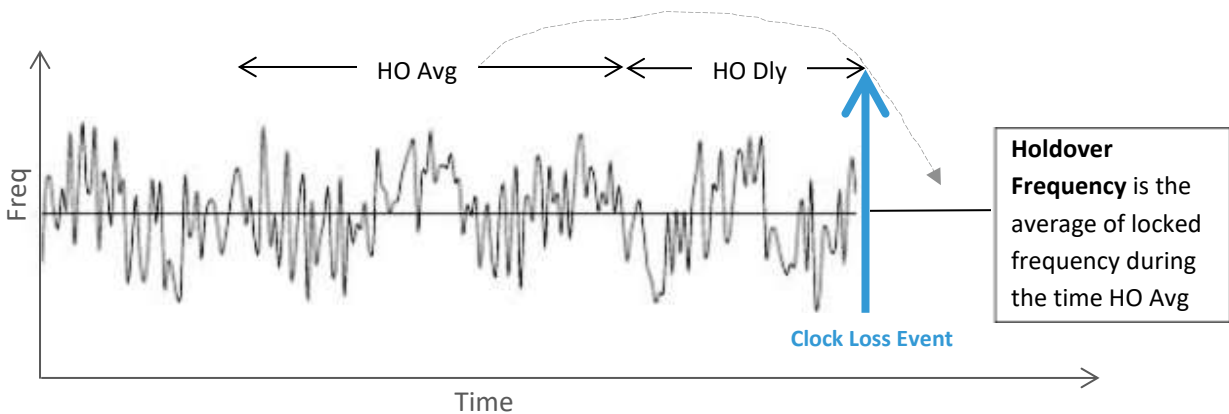

Figure 32: Example of the holdover history plot
The lock loss and output frequency (F_{out}) settings can be set in the respective sections. Go to the **Lock Loss** sub-section (in the center of the PLL section) to select the holdover (HO) history and to enable the lock loss monitor for each PLL. Note that the holdover delay determines the time back in history that the PLL goes for averaging holdover. In other words, the PLL ignores HO delay seconds of the most recent history before the clock loss event. The HO average is the time over which the frequency is averaged to arrive at the holdover frequency, see Figure 32.